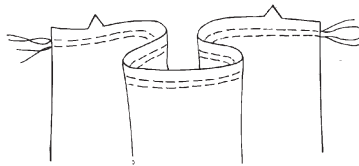

Fig. 5-1
1. Sew two parallel rows of machine basting, using a long machine stitch. Leave a 2-inch (5-cm) length of thread at the beginning and end of each row. Stitch the first row on the seam line. Stitch the second row in the seam allowance about ¼ inch (6 mm) from the seam line. (Fig. 5-1) *Note:* If a large amount of fabric is to be gathered, divide the section to be gathered into four equal parts. Then stitch and gather each part separately.